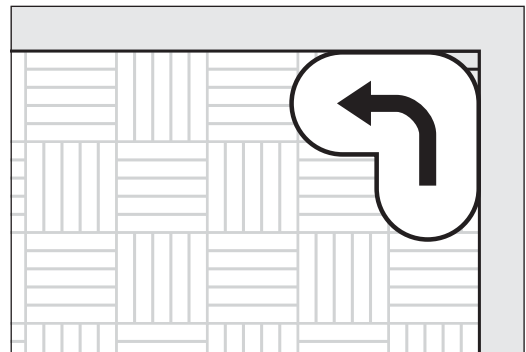

Fig. 13 FLIP® with **corner attachment**:
- The FLIP® with **corner** attachment is handled with **counterclockwise** movements (fig. 13) during the sanding process! Otherwise deep sanding marks might be generated which could be removed by a very time-consuming procedure afterwards only!